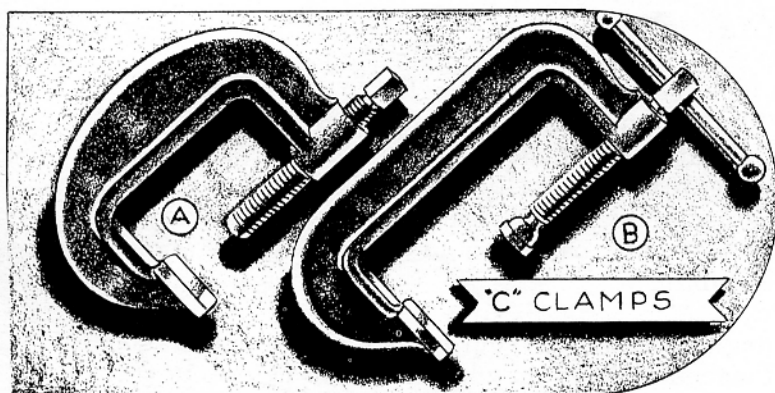

FIG. 115
There are times when clamps and bolts cannot conveniently be employed to hold parts together, and for this reason other clamping devices have been designed which may be substituted. One of these devices is the "C-Clamp" illustrated in Fig. 115. As the name implies, the clamp is shaped like the letter (C). The clamp should be made of tough steel and heat treated after forging to increase its strength and to reduce any tendency to spring. The parts to be held to-